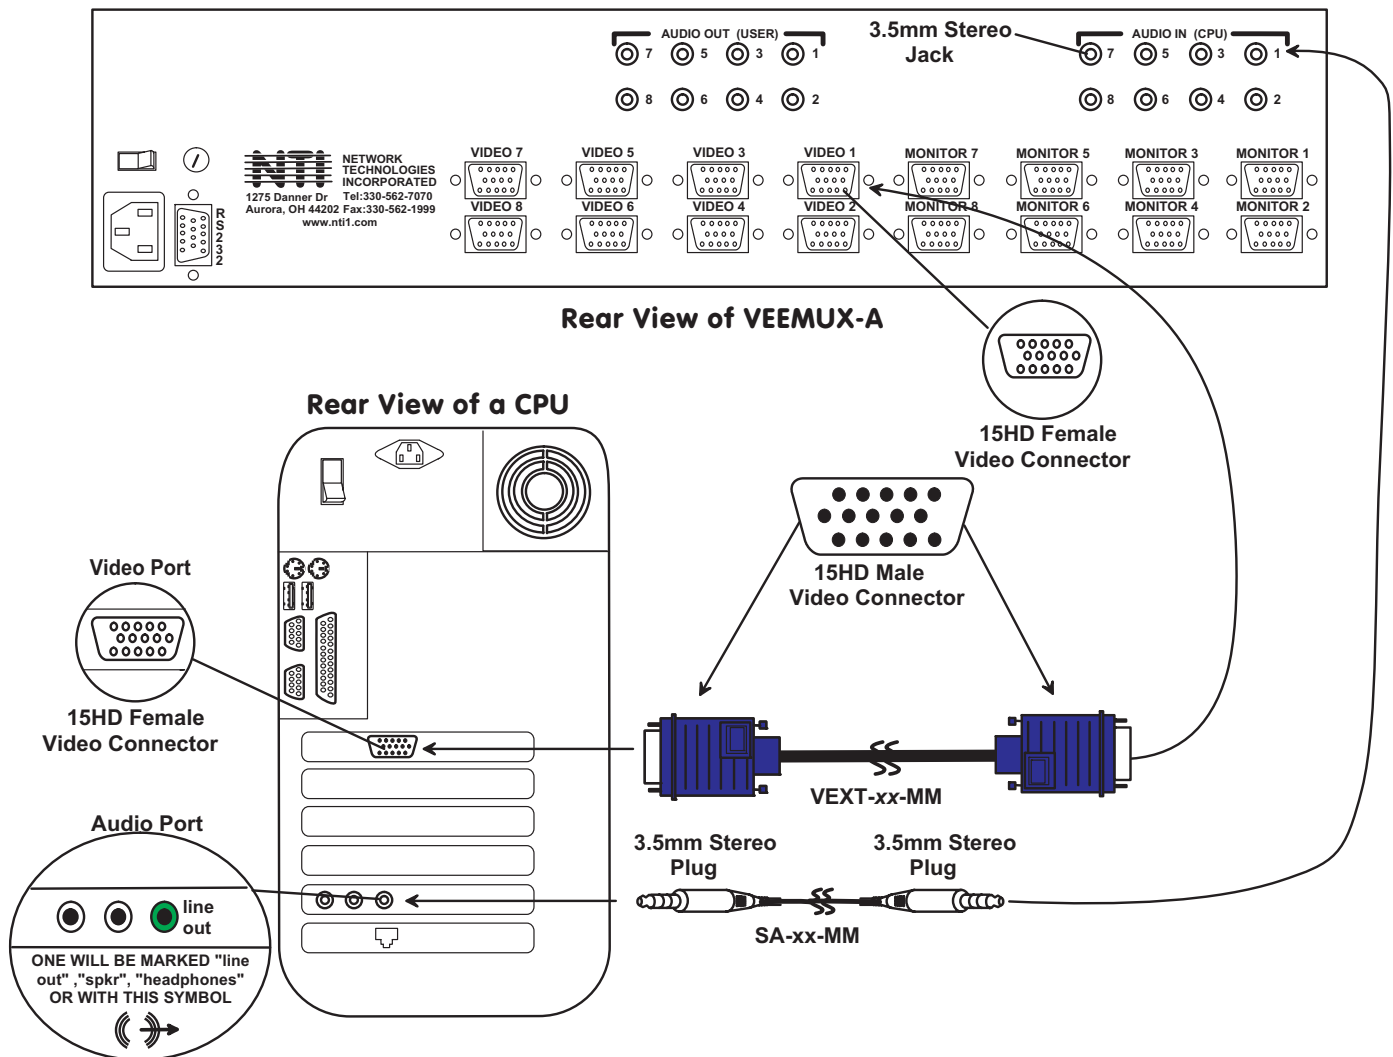

Figure 1- Install Audio and Video Source Cables
2. For each video source, connect a VEXT-xx-MM cable from the video port of the source to a video input (VIDEO-1) of the VEEMUX-A (see Fig. 1).